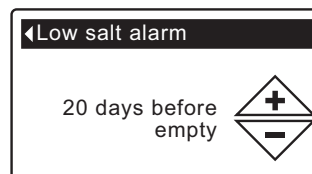

FIG. 35
5. Press the SELECT (O) button to display the Low salt alarm screen (See Figure 35).